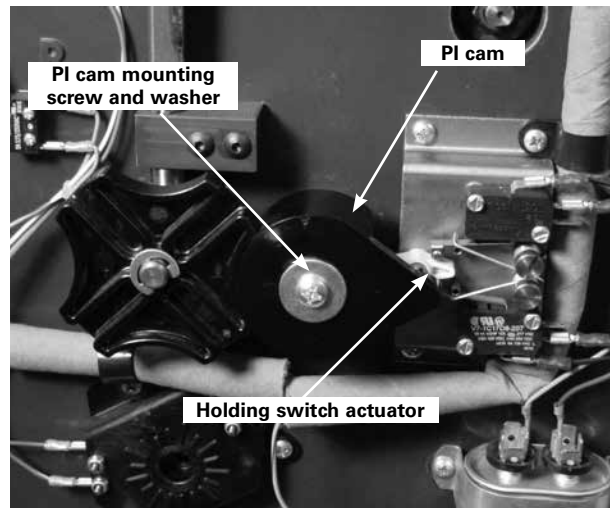

Figure 2. PI Cam and holding switch actuator
1. If possible rotate the PI drive cam so that the point of the cam is pointing toward the holding switch actuator, see Figure 2. The cam should rotate freely by hand.
2. Hold the cam to keep it from rotating and then use a Phillips screwdriver to remove the mounting screw. See Figure 2.